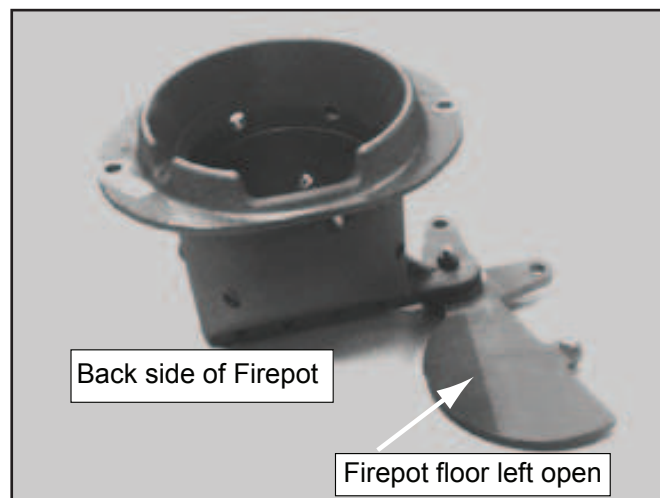

Figure 25.1 - DO NOT LEAVE FIREPOT FLOOR OPEN
- c. The firepot floor plate must be fully closed when finished. **See Figure 25.1 on page 25.**